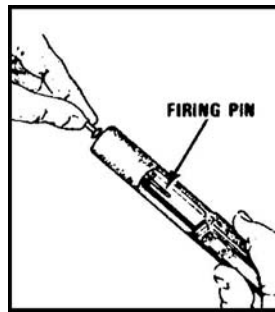

Figure 29. Placing the firing pin.
- f. Drop in the firing pin to seat it (Figure 29).